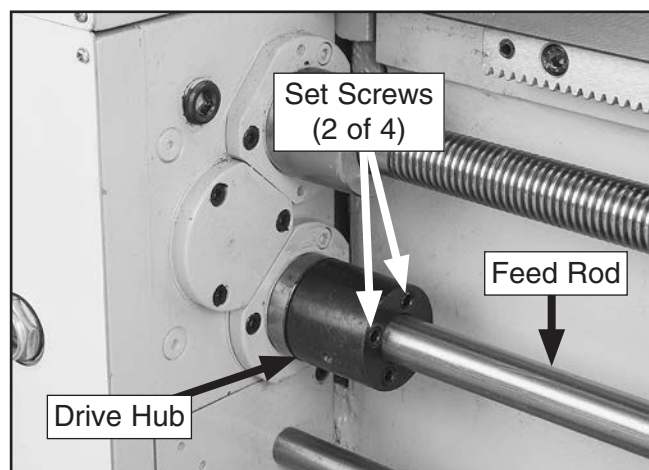

Figure 133. Feed rod clutch.
This lathe is equipped with a feed rod clutch, shown in **Figure 133**, that connects the feed drive hub with the feed rod through a set of spring-loaded ball bearings. This clutch helps protect the apron feed system from overload. The feed rod clutch comes set from the factory, and unless there is a problem, it needs no adjustment.
- If the clutch slips during normal work loads, increase the clutch spring pressure by tightening each of the four clutch drive set screws shown in **Figure 133** one full turn, then recheck for slippage.